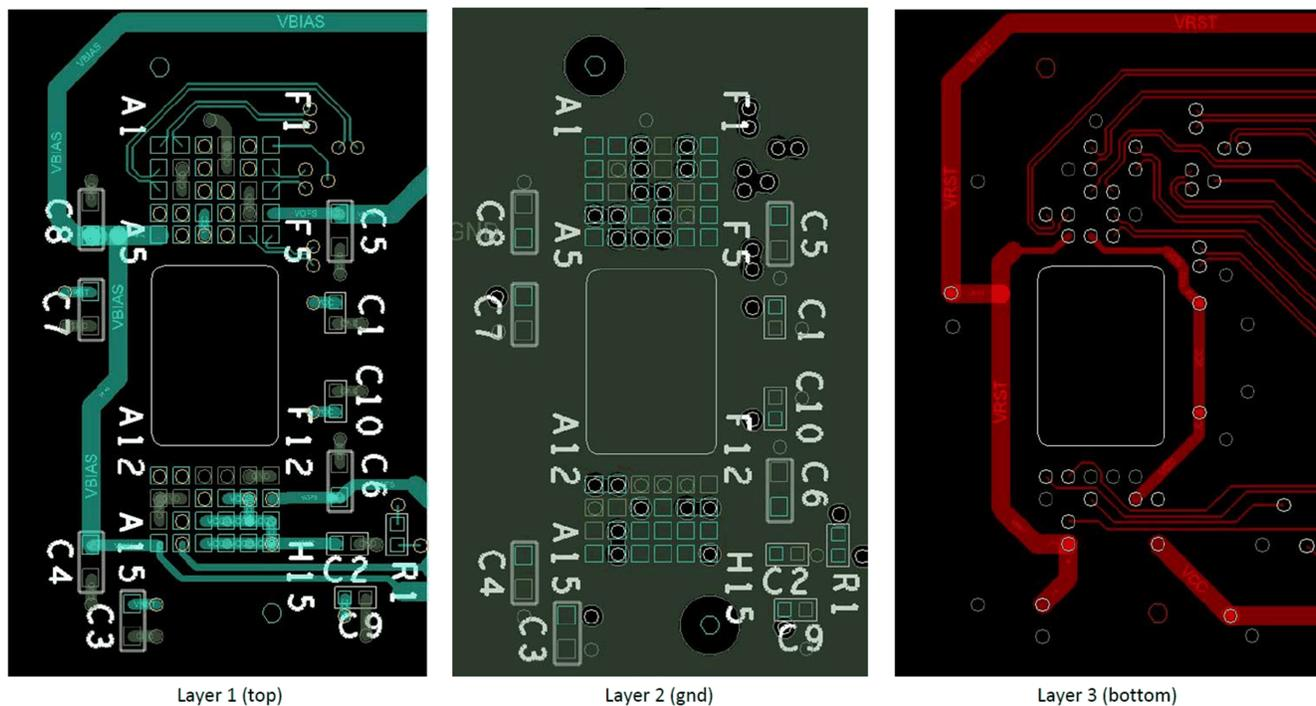

Figure 24. Power Supply Connections
- Minimize vias, layer changes, and turns for the HS bus signals. Refer to Figure 24.
- Minimum of two 100-nF (25 V) capacitors - one close to V_{BIAS} pin. Capacitors C4 and C8 in Figure 24.
- Minimum of two 100-nF (25 V) capacitors - one close to each V_{RST} pin. Capacitors C3 and C7 in Figure 24.
- Minimum of two 220-nF (25 V) capacitors - one close to each V_{OFS} pin. Capacitors C5 and C6 in Figure 24.
- Minimum of four 100-nF (6.3 V) capacitors - two close to each side of the DMD. Capacitors C1, C2, C9 and C10 in Figure 24.